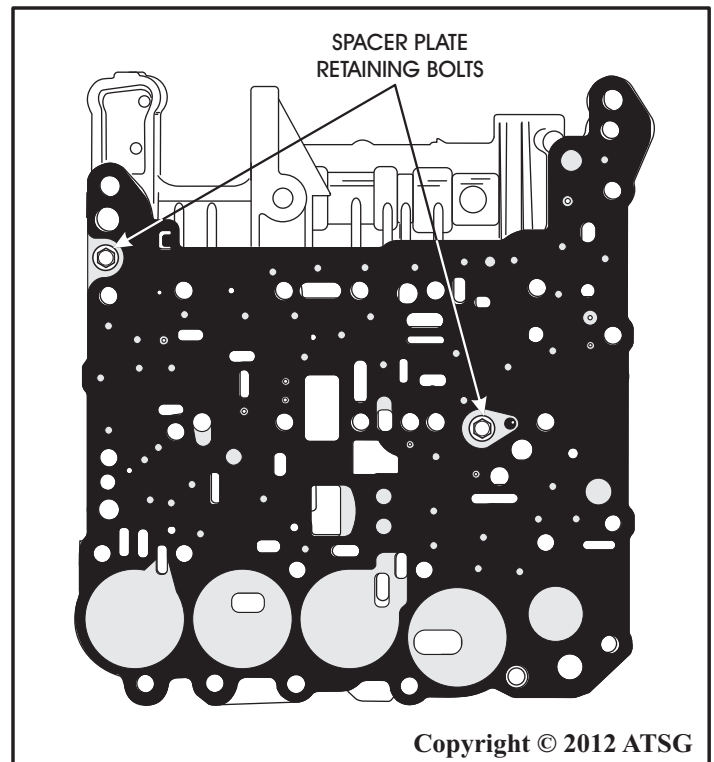

Figure 224
8. Turn the main valve body over and remove the two main spacer plate retaining bolts, as shown in Figure 224.